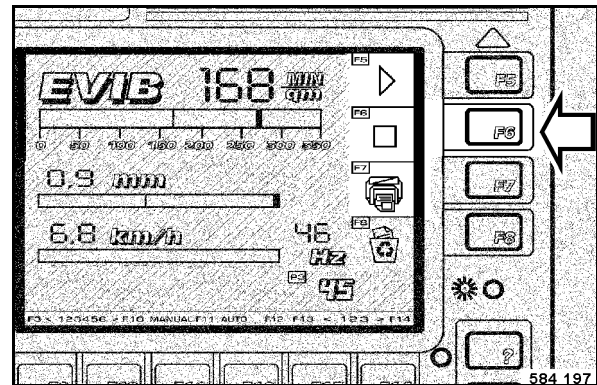

Fig. 99
- Drive forward and reverse passes on a track until the green control field to the left of F5 (Fig. 99) goes out and the red control field F6 below lights up after pressing the stop button F6.